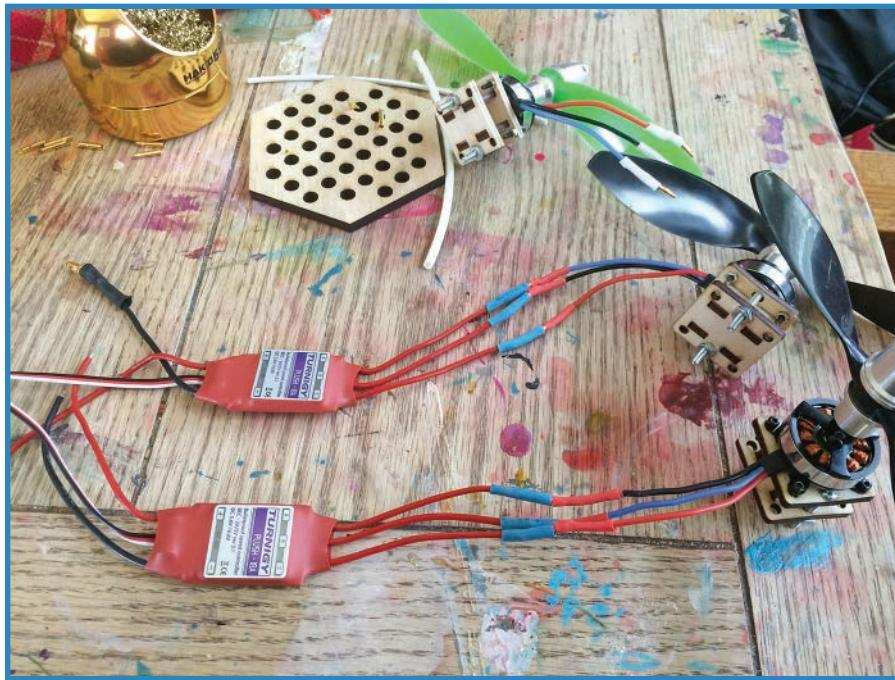

FIGURE 10.18 Snap the bullet connectors together to connect the drone’s motors and ESCs to the wiring harness.
6. **Attach everything!** Zip-tie the battery to the wooden platform. However, don't connect the XT60 ends together—we're not ready to fly yet! Grab the ESC and motor combos (see Figure 10.18) then connect the 16-gauge ends of the wiring harness to the ESCs by snapping together the bullet connectors.